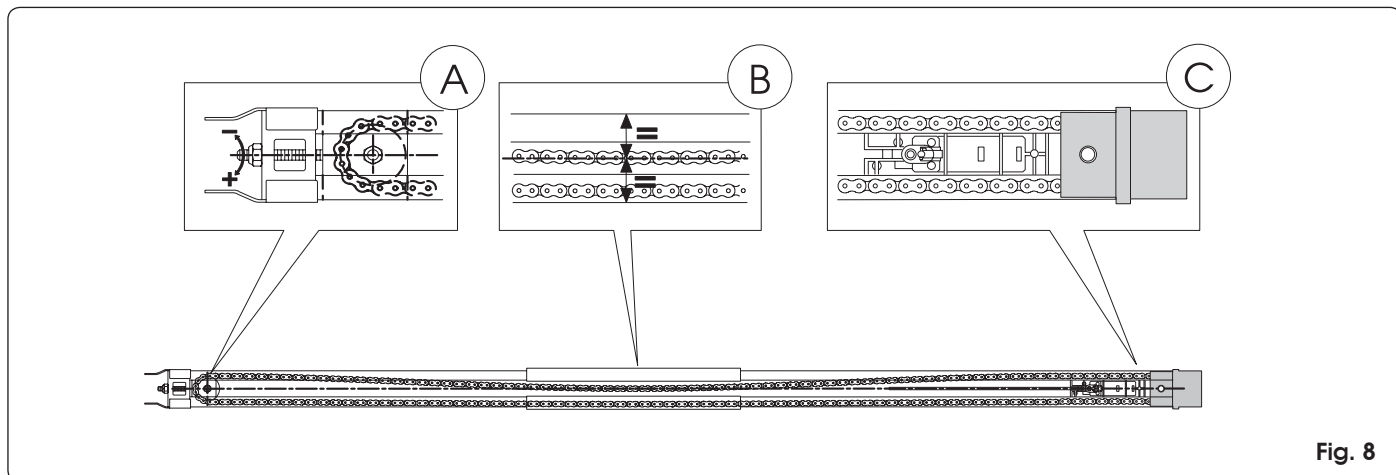

Fig. 8
- 5) Place the sliding guide on the side (Fig. 8).
- 6) Push the carriage toward the drive clutch unit (Fig.8 ref. C).
- 7) Adjust the tensioner (fig. 8 ref. A) so that the central zone of the loop, formed by the top branch of the chain, coincides with about the mid-point of the sliding guide (Fig. 8 ref. B)